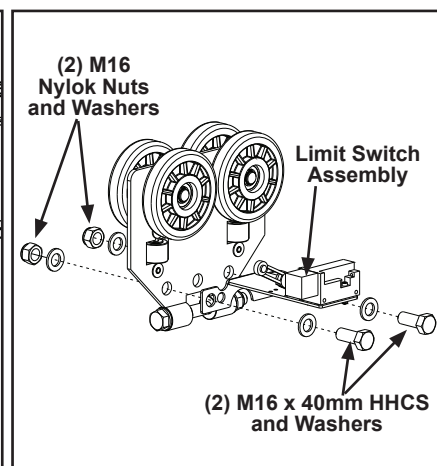

Figure 3-132
- Step 2. Secure limit switch assembly bracket to trolley by inserting two (2) M16x40mm HHCS through trolley bolt hole pattern and limit switch bolt hole pattern. **Tighten until bolts are snug + ¼ turn.** Do not over tighten. Over tightening could cause bracket to bend. See Figure 3-132.